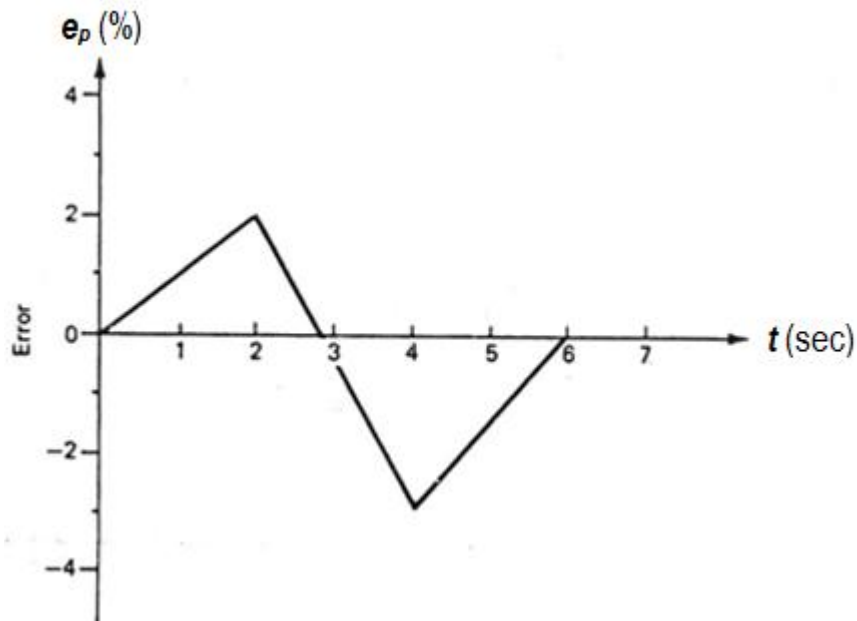

Figure 4: The error input graphs
- (b) A Proportional Derivative (PD) controller has a proportional gain, $K_p = 2$, derivative gain, $K_D = 2$ second and controller output, $CO = 40\%$. **Figure 4** shows the error input graph which can be divided into three (3) segments; 0 – 2 sec, 2 – 4 sec and 4 – 6 sec. Calculate for each segment, the error, e_p and the new controller output, CO . Plot the graph of Controller Output, CO (%) versus time, t (sec).